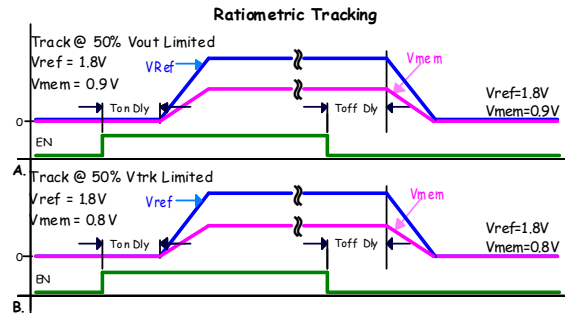

FIGURE 17. RATIOMETRIC TRACKING
1. Track at 50% V_{OUT} limited. Member rail tracks the reference rail and stops when the member reaches 50% of the target voltage, Figure 17\(A\).
2. Track at 50% V_{TRK} limited. Member rail tracks the reference at the instantaneous voltage value applied to the VTRK pin until the member rail reaches 50% of the reference rail voltage, or if the member is configured to less than 50% of the reference the member will achieve its configured target, Figure 17\(B\).